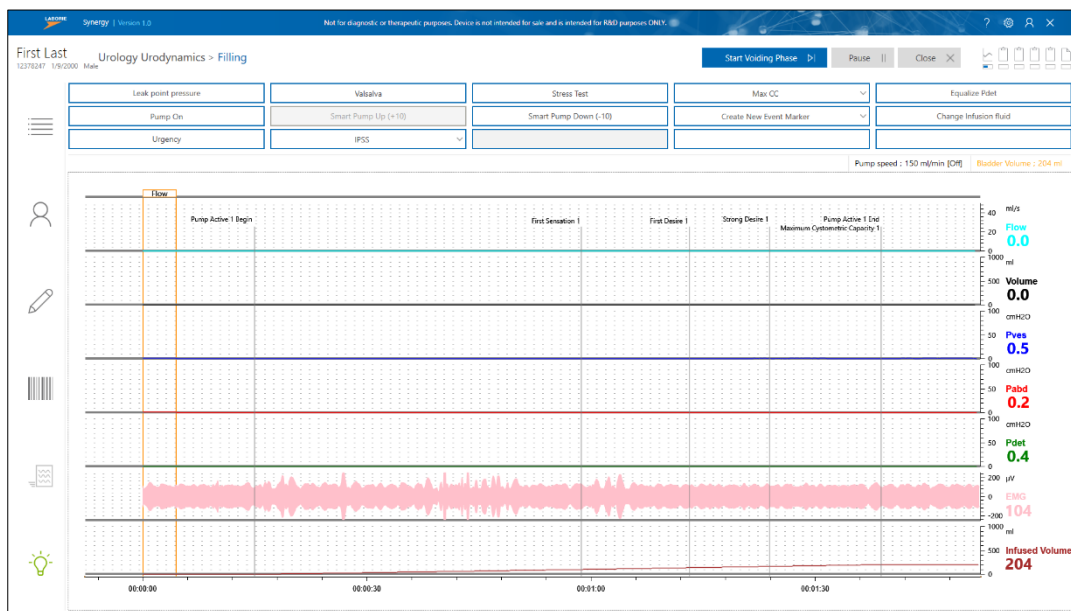

Figure 23: Pressure Flow Filling Phase
4. Encourage the patient to give feedback on sensation or urge. Mark relevant events (e.g.: **First Sensation**, **First Desire**, **Strong Desire**, etc.) by clicking the **First Sensation** drop-down menu and selecting the relevant event. Refer to Figure 23.